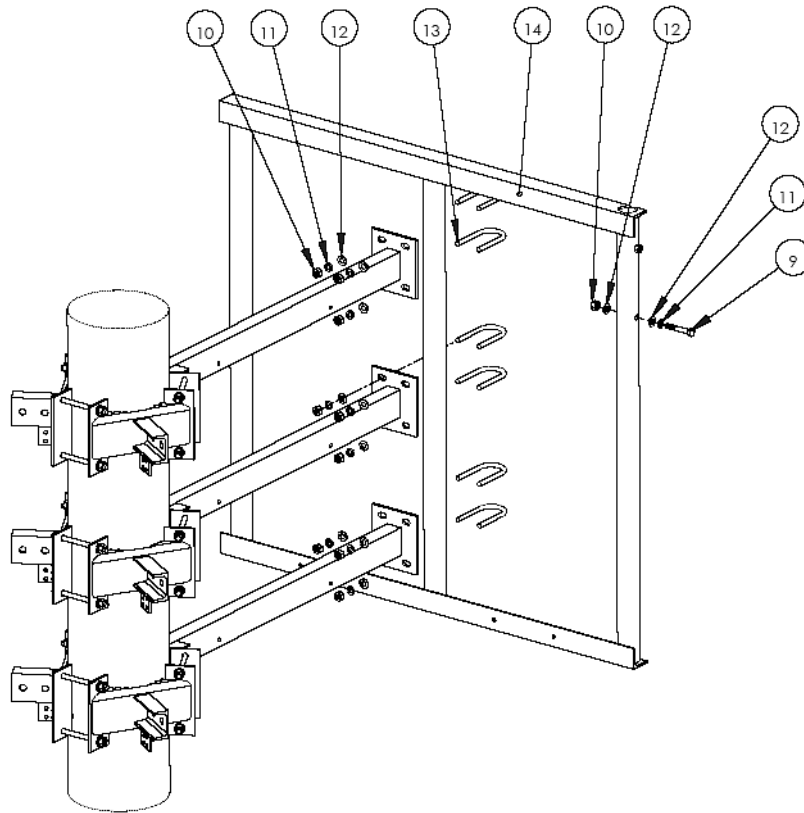

Figure C-33: Attaching H-Frame to Horizontal Arms
The procedure for attaching the H-Frame to the horizontal arms is the same for all types of structures. Figure C-33 illustrates the procedure for installation on a 3 sector monopole.
- 2 Use the bolts, washers, spring washers and nuts as listed in Table C-17 to attach the middle pipe of the H-Frame to the plates at the end of each of the 3 horizontal arms as shown in Figure C-33.